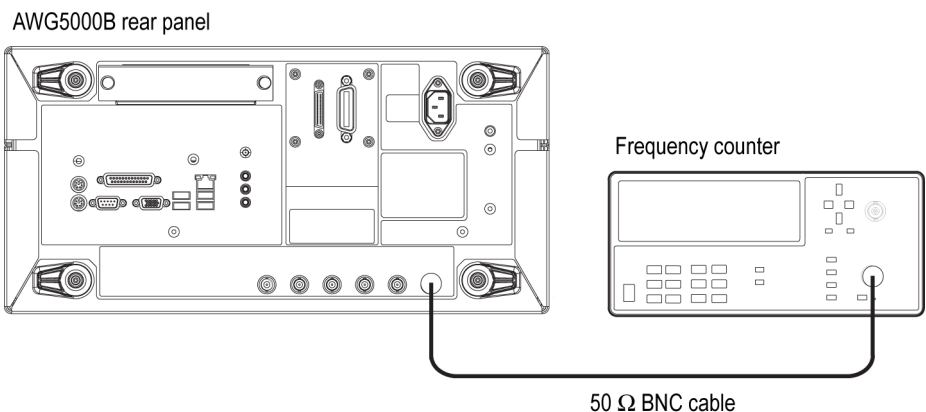

Figure 3: 10 MHz Reference clock calibration test hookup
- a. Use the 50 Ω BNC cable to connect the 10 MHz Reference Output connector on the AWG5000B rear panel to the CHANNEL 1 connector on the frequency counter. (See Figure 3.)